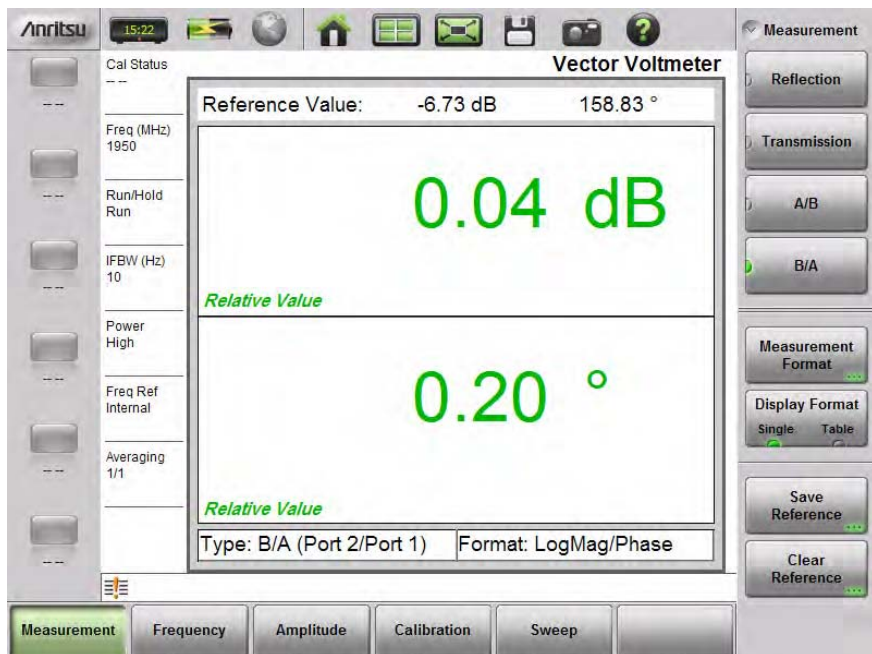

Figure 8-6. Second Side of Splitter Relative to Saved Reference
3. After the reference value has been stored (in Step 2), reverse the splitter output connections and remeasure. The difference between both outputs of the splitter is displayed as the *Relative Value* that is shown in green on the S820E screen. This is the error between the two outputs of the splitter. A properly working splitter should have very closely matched values, as seen in Figure 8-6. When in doubt, consult the splitter data sheet to determine if it is still functioning within specifications.